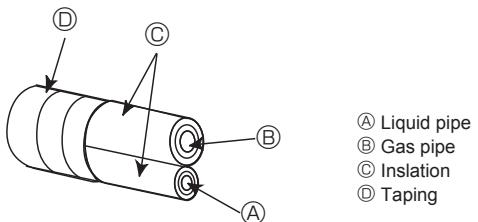
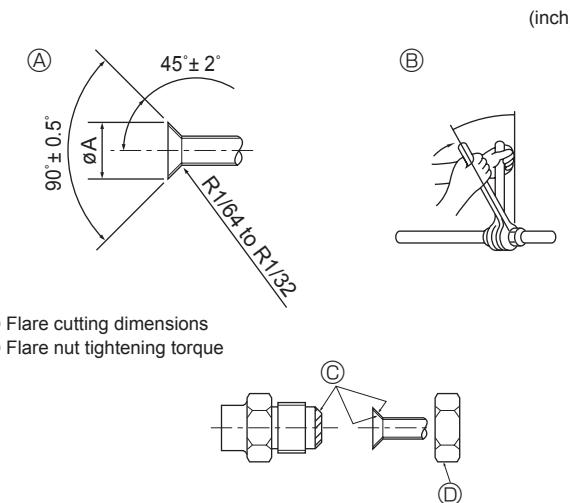

Fig. 4-1
Fig. 4-2
① (Fig. 4-1)
② (Fig. 4-1)
### 4.2. Connecting pipes (Fig. 4-1) (Fig. 4-2)
When commercially available copper pipes are used, insulate both the liquid and gas pipes separately with commercially available insulation materials (heat-resistant to 100 °C, 212 °F or more, thickness of 12 mm, 1/2 inch or more). (Fig. 4-1)
- The indoor parts of the drain pipe should be wrapped with polyethylene foam insulation materials (specific gravity of 0.03, thickness of 9 mm, 23/64 inch or more). [Fig. 4-2]
- Apply thin layer of refrigerant oil to pipe and joint seating surface before tightening flare nut. ①
- Use 2 wrenches to tighten piping connections. ②
- Apply refrigerating machine oil over the entire flare seat surface. ③
- Use the flare nuts for the following pipe size. ④